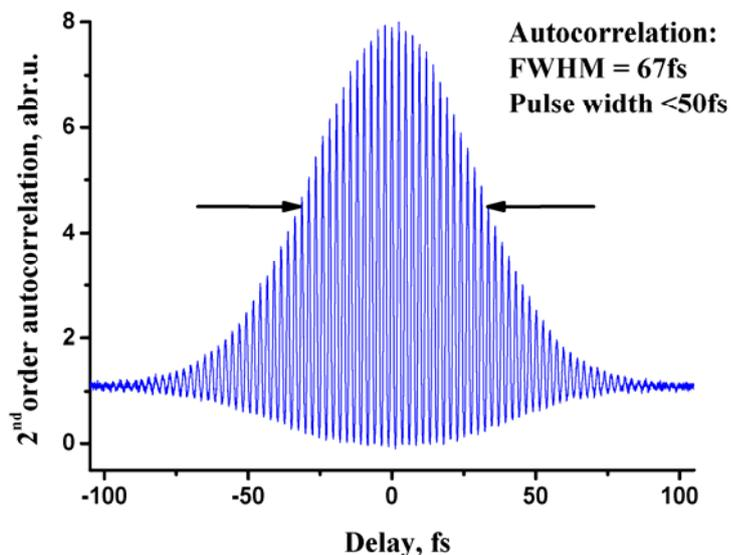

Fig. 17 Autocorrelation
75. Measure pulse duration with an autocorrelator. The typical autocorrelation trace is given in the *Fig. 17*.